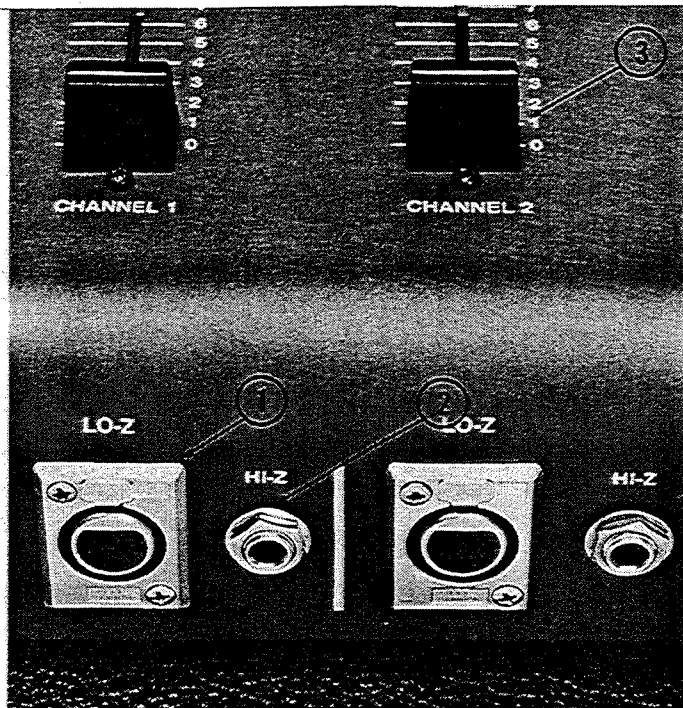
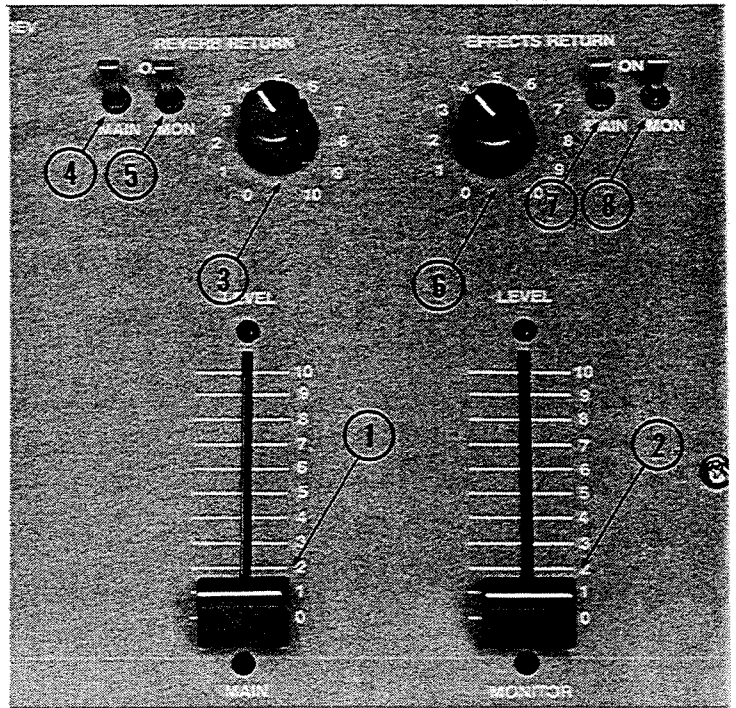

FIGURE 5 — Pre-Amp Jacks and Level Controls
FIGURE 6 — Master Section Level Controls
Channel Level Control (Fig. 5 - Item 3)
Main Channel Master Level Control (Fig. 6 - Item 1)
Monitor Channel Master Level Control (Fig. 6 - Item 2)
Reverb Return Control (Fig. 6 - Item 3)
Main Channel Reverb On/Off Switch (Fig. 6 - Item 4)
On/Off Switch (Fig. 6 - Item 5)
Effects Return Control (Fig. 6 - Item 6)
On/Off Switch (Fig. 6 - Item 7)
On/Off Switch (Fig. 6 - Item 8)
Each channel is provided with a three pin low impedance (Lo-Z) microphone connector (Fig. 5 - Item 1) designed to be used with a low impedance microphone in the range of 50 to 250 ohms. The input is unbalanced and pin 3 is the signal input pin.
A high impedance (Hi-Z) phone jack is also provided for each channel (Fig. 5 - Item 2). This jack allows use of a high impedance (50K to 150K
High impedance microphones plug into the Hi-Z phone jacks (Fig. 5 - Item 2).
Low impedance microphones plug into the Lo-Z 3 pin connectors (Fig. 5 Item 1).
1. Set all Channel, Main, and Monitor Level controls ("faders") to their minimal positions (Fig. 5.- Item 3) (Fig. 6 - Item 1 and 2).
5. Effects and Reverb switches should be "off" (Fig. 6 - Items 4, 5, 7 and 8).
7. Set the Main Level control (Fig. 6 - Item 1) to "4" or "5".